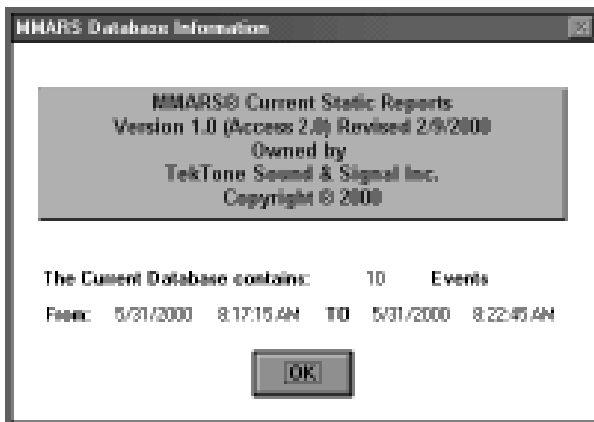

Figure 2: MMARS Database Information
3. MMARS Database Information window will appear. Refer to *Figure 2*.